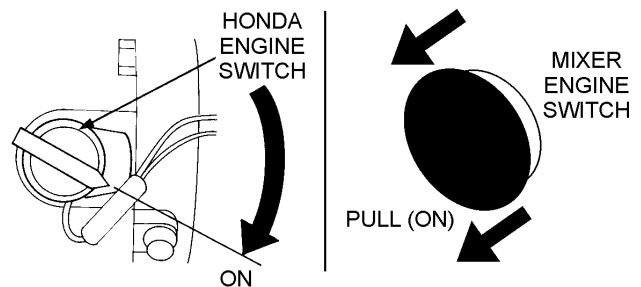

Figure 10. Engine ON/OFF Switches (ON Position)
5. Place the engine ON/OFF switch (Figure 10) in the "ON" position.